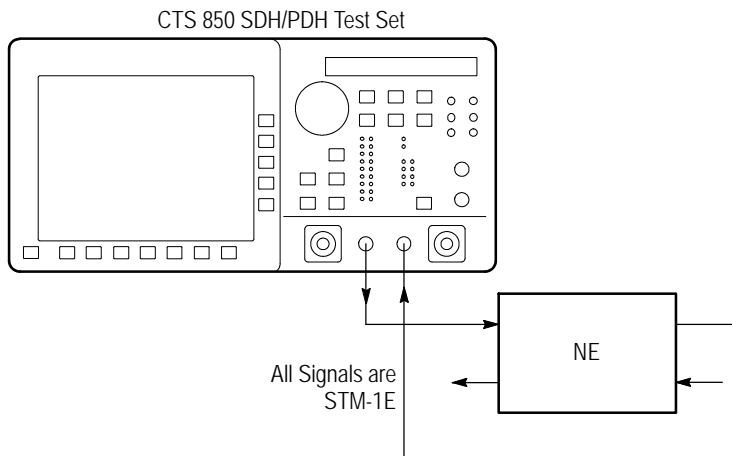

Figure 3 6: Setup to Check Line Frequency Offset Response
1. Connect the CTS850 to an NE as shown in Figure 3 6.